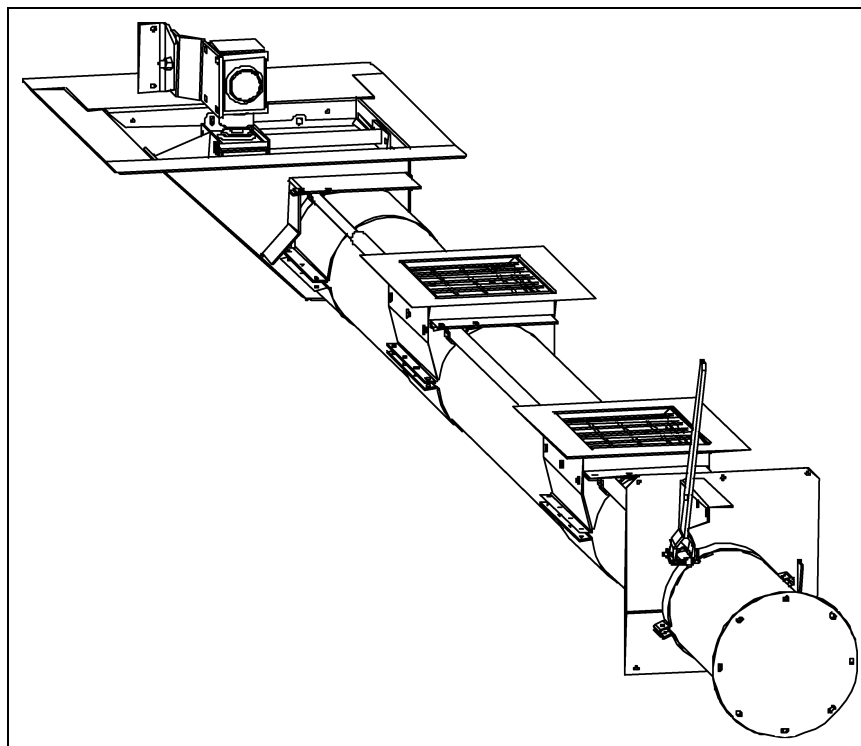

Figure 30
5. When the control rod is fastened to the control gate and the gate is closed, the center well control pipe should extend past the end of the intermediate well control pipe a minimum of 2-1/2". (*See Figure 30.*)